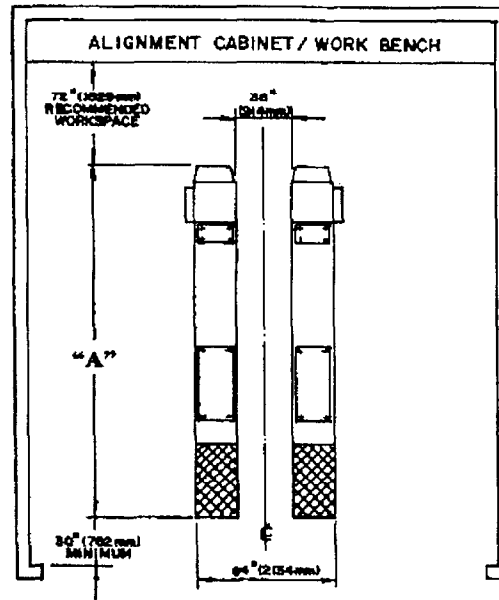

Figure 2: Typical Bay Layout
1. After selecting the location best suited for your lift, draw a line parallel to the front of the lift, approximately 72" (1829mm) back from the cabinet/work bench area. This will be the approximate location of the front of the lift. Refer to **Figure 2**.